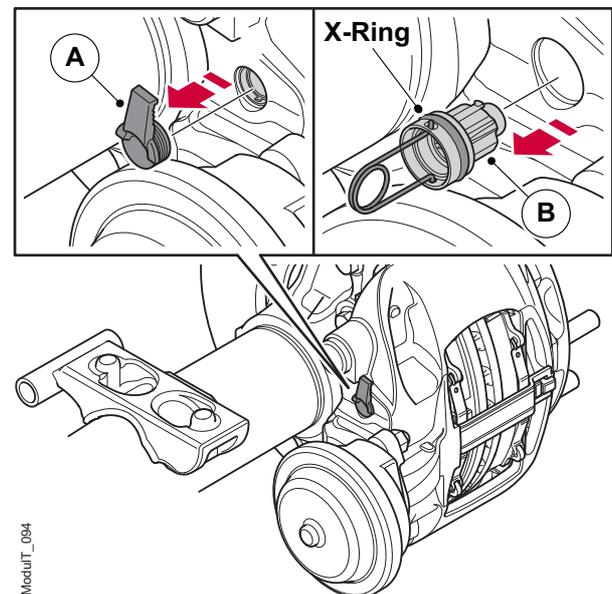

Figure 66. Removing the reset shaft
2. Remove the reset shaft protection plug (A). (With PWI/PWIS you need to remove the sensor. Remove the screw and pull the sensor straight out without changing the setting of the sensor, follow chapter "4.4.2.3 Remove PWS/PWIS".)
3. Insert Haldex special tool P/N 95210 and pull out the reset shaft (B) with x-ring complete, see figure 66.